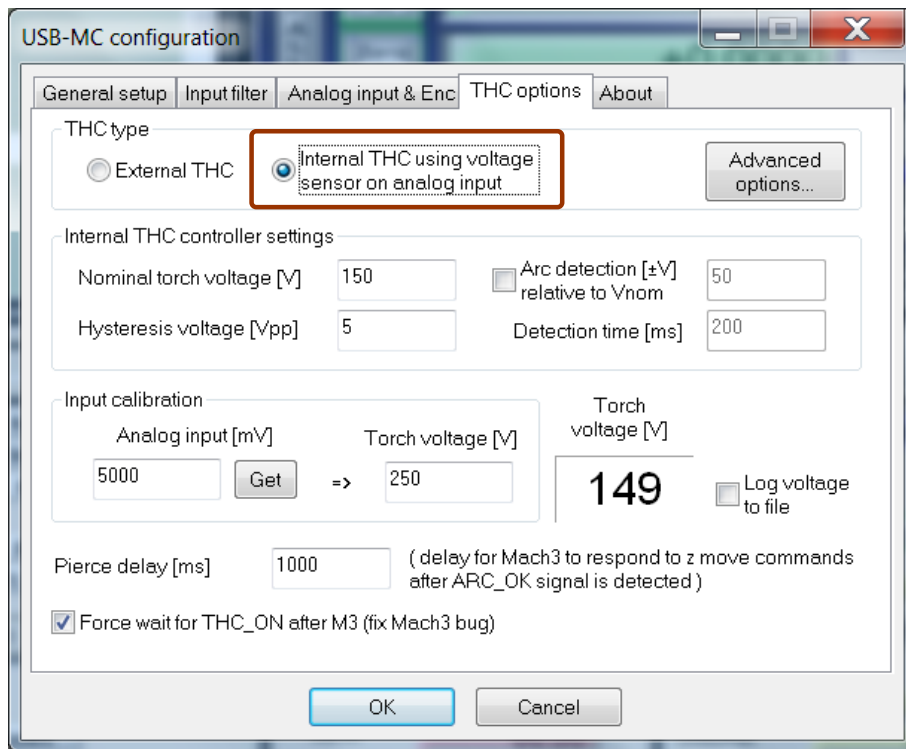

Figure 7 USB-MC dialog for configuring THC options when working with internal THC regulator
**THC type** – it is required to select option **Internal THC using voltage sensor on analog input** (as shown in Figure 7)
Also added are the fields that display current and nominal value of the torch voltage. These two fields are specific for the internal THC regulator of USB-MC motion controller. Nominal voltage can be specified by directly editing this field (in addition to using THC dialog of USB-MC motion controller shown on Figure 7).